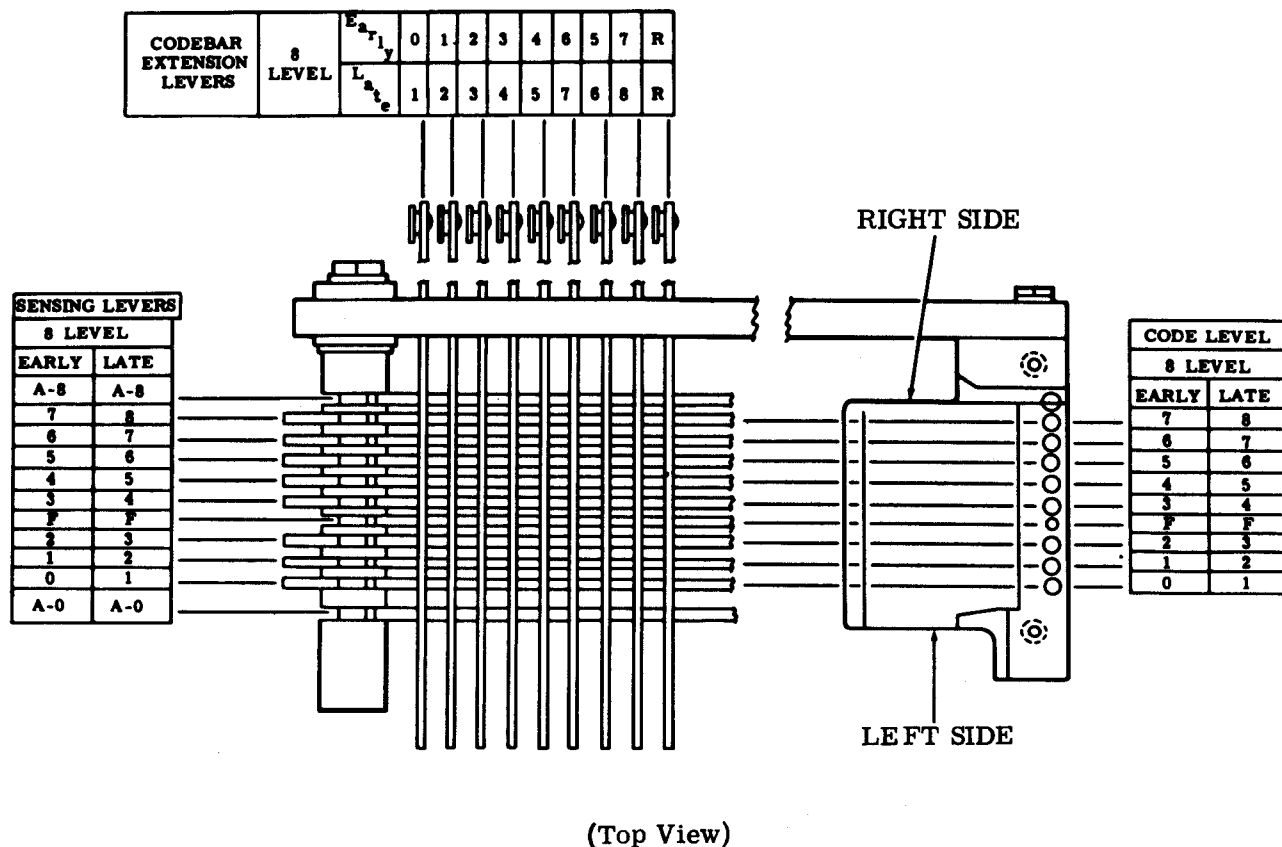

Figure 2 - Tape Punch Code Level Cross Reference Chart
1.15 The relationship between code levels, sensing levers, and codebar extensions is illustrated in Figure 2.
(Figure 2) and its associated pawl.
Note 2: For tape punches equipped with automatic controls, the requirement will be checked between the second from the left sensing lever (Figure 2) and its associated pawl.
Note 3: There should also be some clearance between the rightmost sensing lever (Figure 2) and its associated pawl.